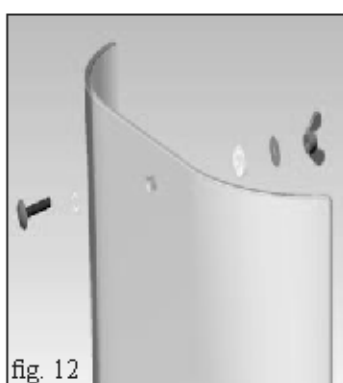

fig. 12
- Fit the side removed previously (for the version with glass sides, put the gaskets and small parts back in place as shown in figure 12).